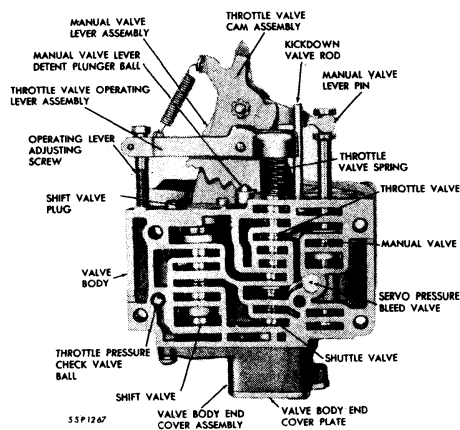

Fig. 119—Valve Body Assembly
- (5) Note positions of servo pressure bleed valve and pressure check valve ball. (Fig. 119.) Remove and place in clean container. Remove the throttle valve cam spring from cam and operating lever.
- (20) Install servo bleed valve and throttle pressure check valve ball into position in valve body. (Fig. 119.) Install guide studs, Tool C-3295.